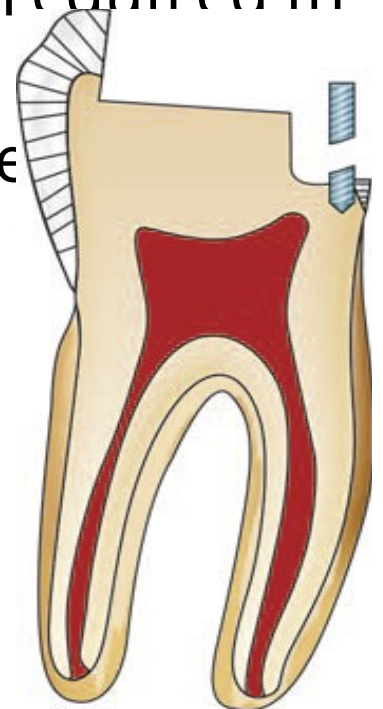

Fig. 5.15: Pin fracture
- Pin fracture may occur because of improper technique during pin placement (**Fig.5.15**).